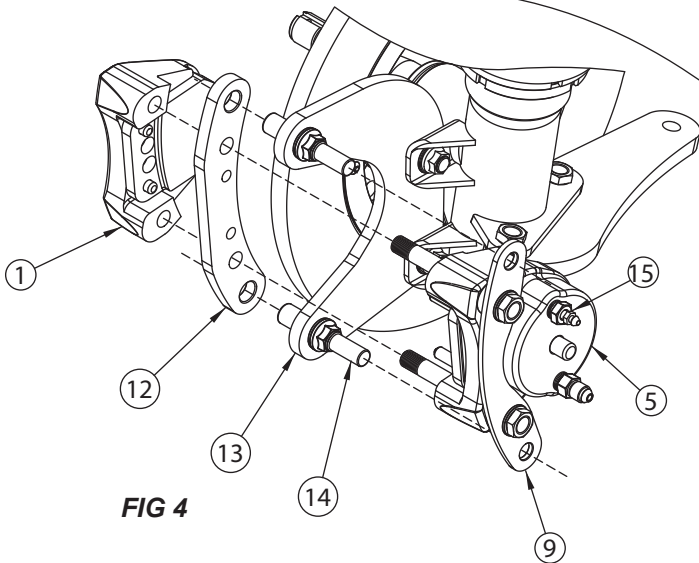

FIG 4
**Step 4** - Slide the float bracket (12) onto the float stand (14). Next, slide the float bracket (9), located on the inner caliper assembly onto the float stand (14) as shown in Fig 4. Thread bridge bolts (11) into the outer caliper (1) and torque them 25-30 ft/lbs. Make sure the bleed screw (15) is in the upper hole of the caliper (5). If not, reverse caliper from the other side of the car.